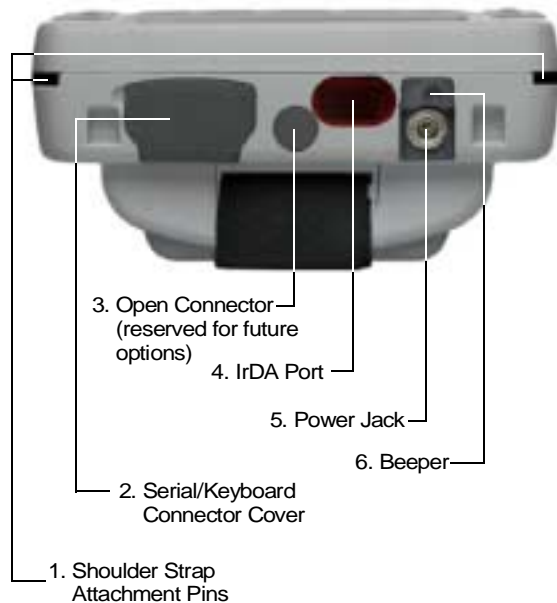

Figure 7. The PTC-2234 (bottom view).
2. Pull open the serial/keyboard connector cover (refer to Figure 7 on p. 29).